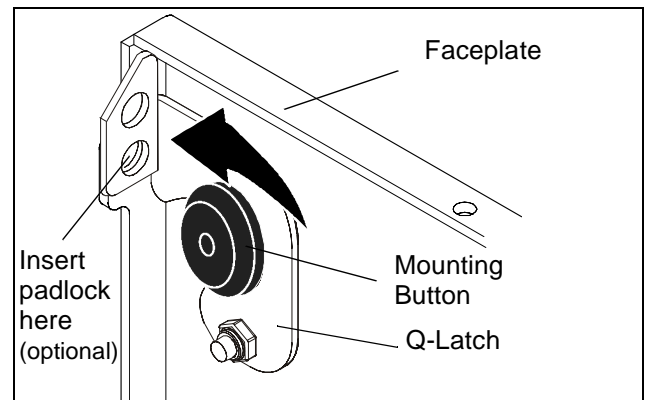

Figure 8: Close Q-Latch
3. Rotate Q-Latch to the CLOSED position (see Figure 8).